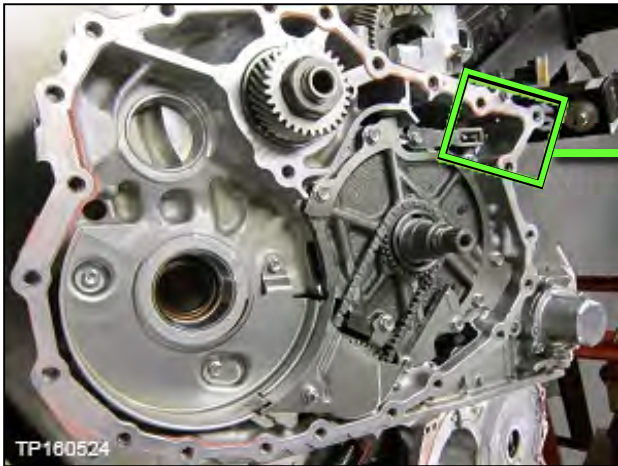
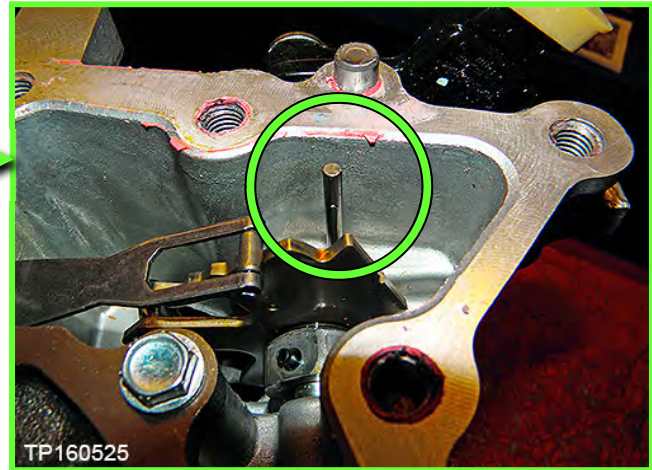

Figure 32
Figure 33
17. Note the location of the pin shown in Figure 32 and Figure 33.